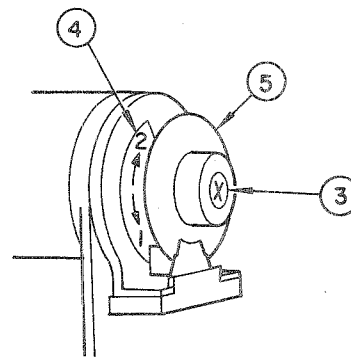

Fig. 15
- ② Loosen screw ③ of Fig. 15, and turn the inner disc as described below. At this time, be careful not to accidentally allow outer disc ⑤ and the handwheel to turn.
- * Turn disc ④ in the direction of ① to advance the lower position stop timing.
- * Turn disc ④ in the direction of ② to delay the lower position stop timing.
- ③ Tighten screw ③ to fix the disc, and reinstall the cover with screws ②. Then, operate the machine to check the stop position.
- 1) Do not operate the machine with screw ③ loosened or with the cover open.
- 2) If disc ⑤ should be accidentally turned while making adjustment of the lower stop position, the upper stop position will be disturbed. In this case, remove the cover again and readjust disc ⑤. The direction in which the disc should be turned is the same as that for the adjustment of the lower stop position.